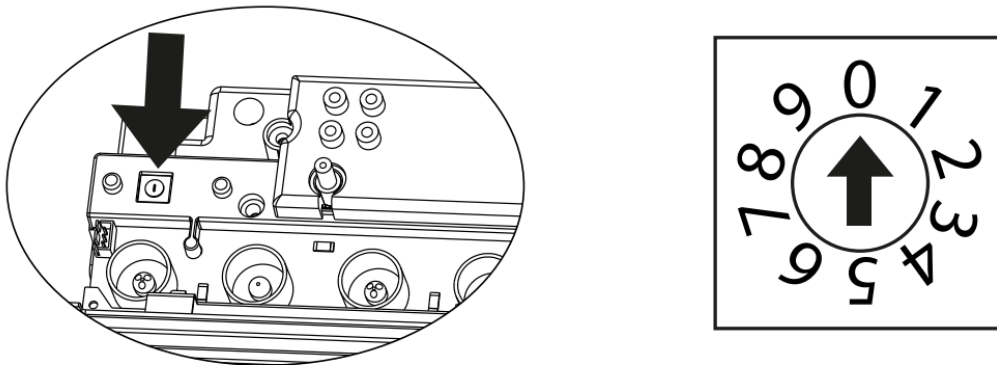

Fig. 22
6. Each product is fitted with a rotary identifier switch which must be adjusted for daisy chaining (Fig 22). The master unit should be set at 0 (default). Subsequent units should be given a unique identifier number on each binary switch.